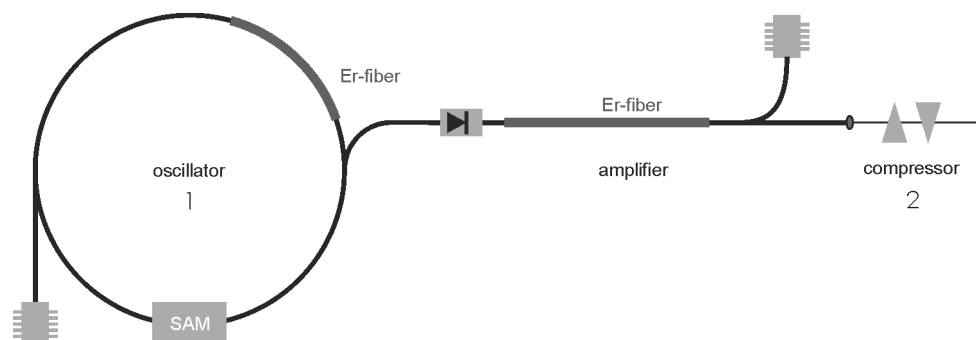

Figure 2 Schematic Setup of the FemtoFiber® pro Laser System
The FemtoFiber® pro Laser System illustrated in Figure 2 is based on state-of-the-art telecom components. A core-pumped fiber, doped with Erbium ions, acts as the active laser medium. A so called saturable absorber mirror (SAM) inside the ring cavity (1) in Figure 2 favors mode-locked operation over continuous wave laser activity by exploiting the effect of picking and amplifying only pulses with a certain amplitude. As a consequence, the mode locked ring oscillator generates trouble-free ultra short light pulses (< 100 fs) at a center wavelength of 1560 nm with a repetition rate of 80 MHz (standard, other rep. rates upon request).